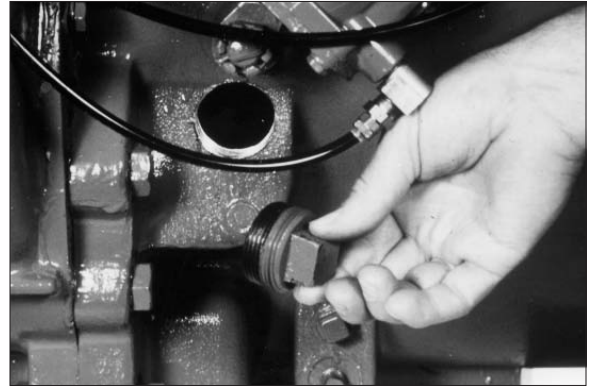

Fig. 14
1. Remove the filler plug from the transmission and add recommended transmission lubricant to the level prescribed by the transmission or truck manufacturer (**Fig. 14**).